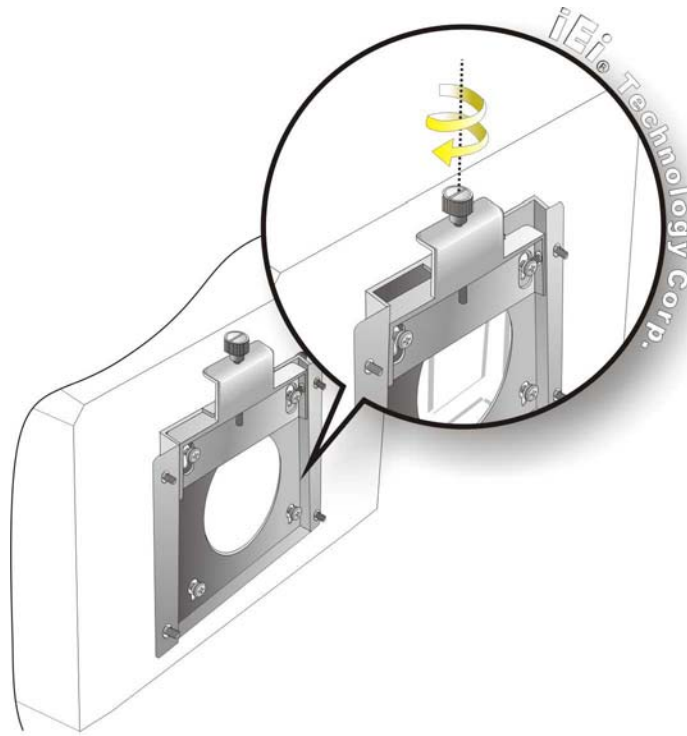

Figure 4-15: Secure the ACT-08A-ATOM
Step 9: Secure the ACT-08A-ATOM by fastening the retention screw of the wall-mounting bracket. (**Figure 4-15**).